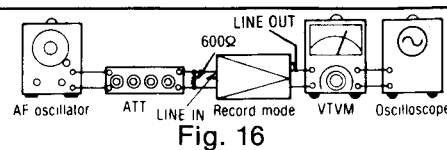

Fig. 16
- B. Adjust VR201 so that the 0dB segment of the FL meter lights up with the input level of 0 ± 0.2 dB range of the standard input level (See fig. 16).